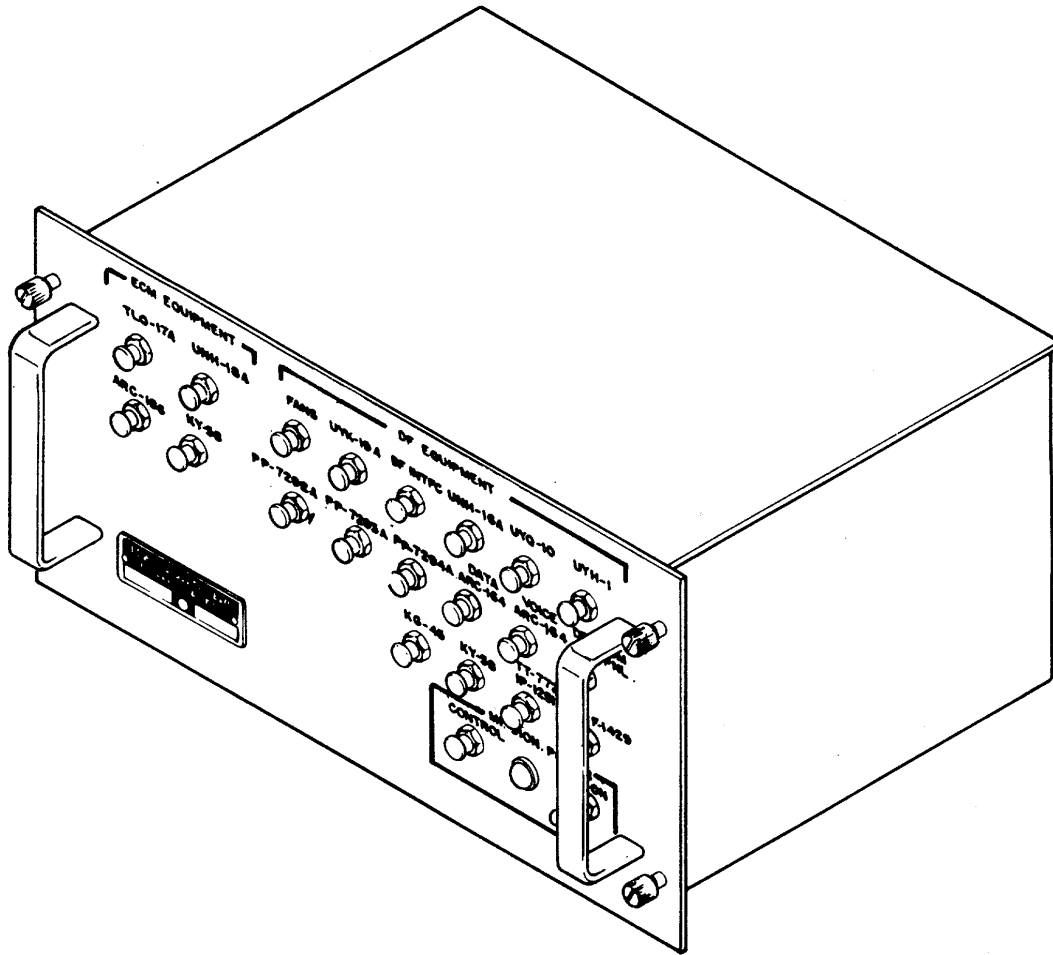

Figure 1-1. Distribution Box J-3986/ALQ-151(V)
**1-1. Scope.** This manual provides organizational, direct support, and general support maintenance information, and repair parts and special tools list (RPSTL) for Distribution Box J-3986/ALQ-151(V) (see figure 1-1), hereinafter referred to as the power distribution box. In addition, the manual provides general information, tabulated data, and a functional description of the equipment. Refer to TM 32-5865-012-10 for organizational operating instructions for the power distribution box.